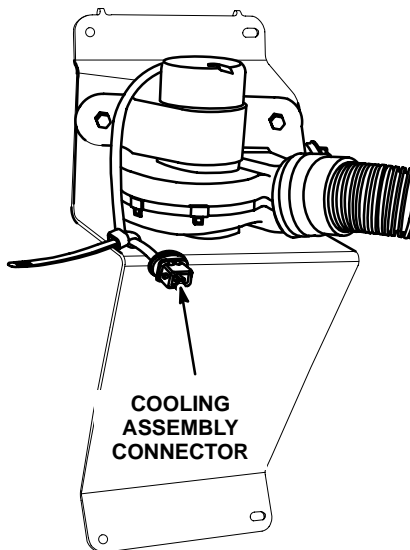

Fig. 15 Traction Battery Cooling Fan Assembly
- (1) Disable the traction battery pack by turning the service disconnect switch to Off.
- (2) Disconnect and isolate the auxiliary battery negative cable.
- (3) Remove the BIC. Refer to “BIC Removal” procedure in this group.
- (4) Disconnect traction battery cooling assembly connector (Fig. 15).